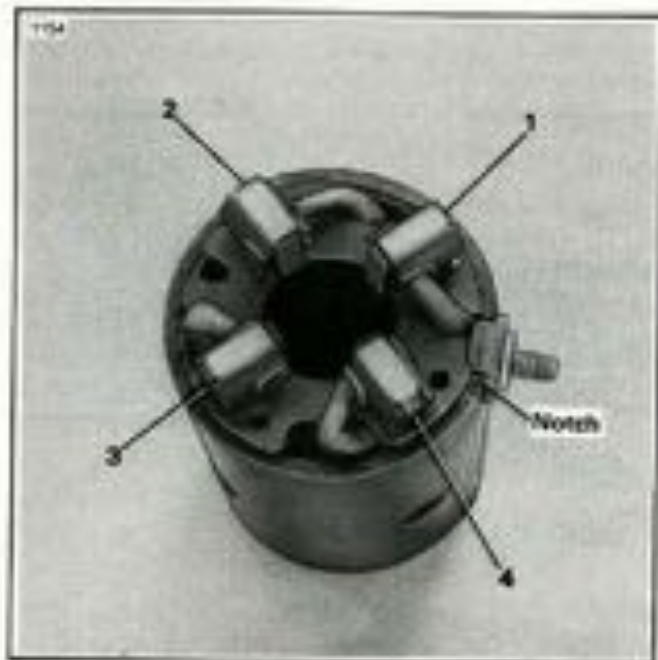

Figure 5-10. Installing Brush Holder
1. See Figure 5-10. Place the brush holder on the frame and position the brushes as shown. The holder has a notch that must line up with the terminal.